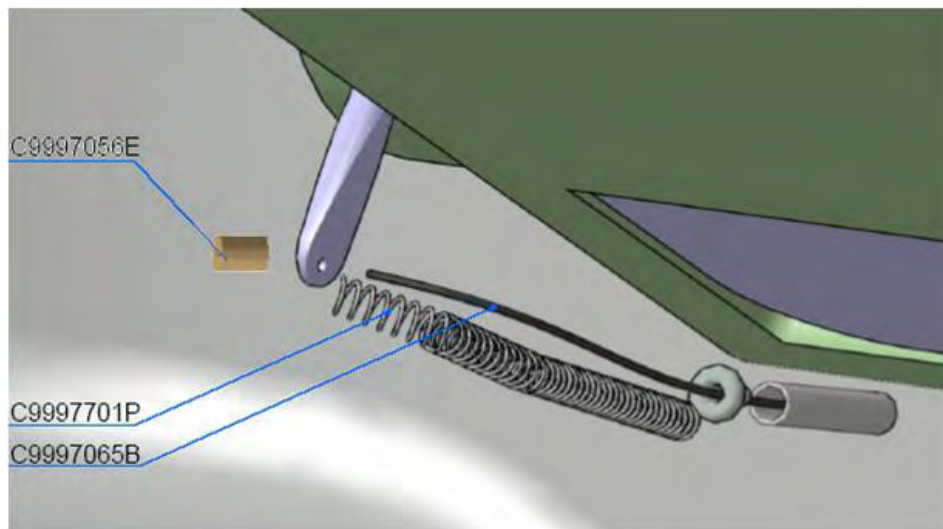

Fig. 5
- Inspect the cable C9997065B (Steel rope 7x7 1 mm) for frays and if the sleeve C9997056E (Nicopress stop sleeve 1.5 -1.7 mm for 1.6 mm cable) is missing near the attachment of the cable to the choke inside KB5030500 Air filter box. Fig. 5.